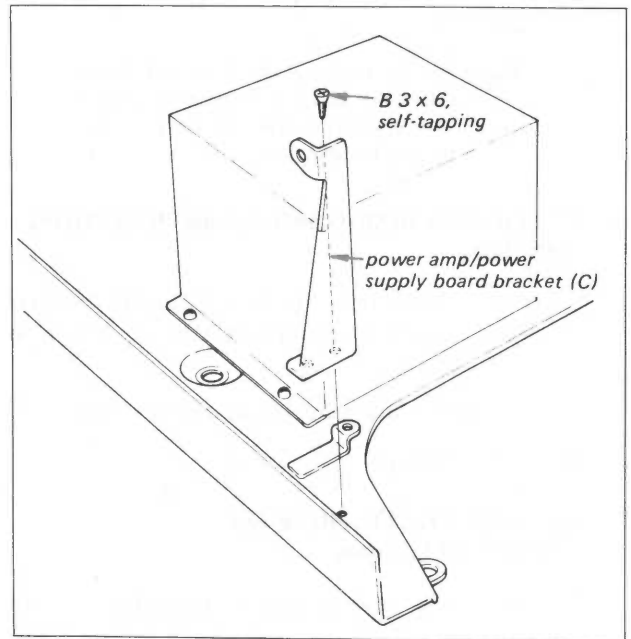

Fig. 2-11. VOLUME control replacement
2. Remove the power amp board bracket (c) located near the front subchassis by taking out the screw as shown in Fig. 2-11.